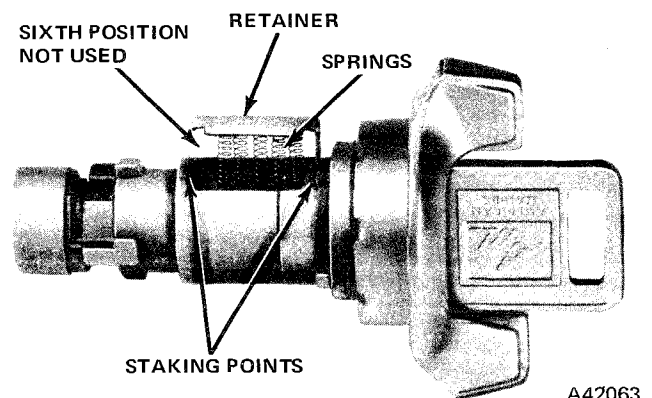

Fig. 2J-68 Tumbler and Spring Installation
(4) Starting at key end of lock cylinder, insert tumblers in proper slots and in order required by key code. Pull side bar outward slightly to allow tumblers to drop completely into place.
(5) Install a spring on each tumbler.
(6) Insert tumbler retainer so two end prongs slide into slots in cylinder.
(7) Press retainer downward until it is seated.
(8) Insert key in lock cylinder and check tumbler operation. If tumblers are properly installed, side bar will drop downward when key is inserted. If side bar does not move, disassemble cylinder and check for incorrect assembly or coding of key and tumblers.
(9) If cylinder is correctly assembled and operates properly, stake each end of spring retainer in place using punch (fig. 2J-68).